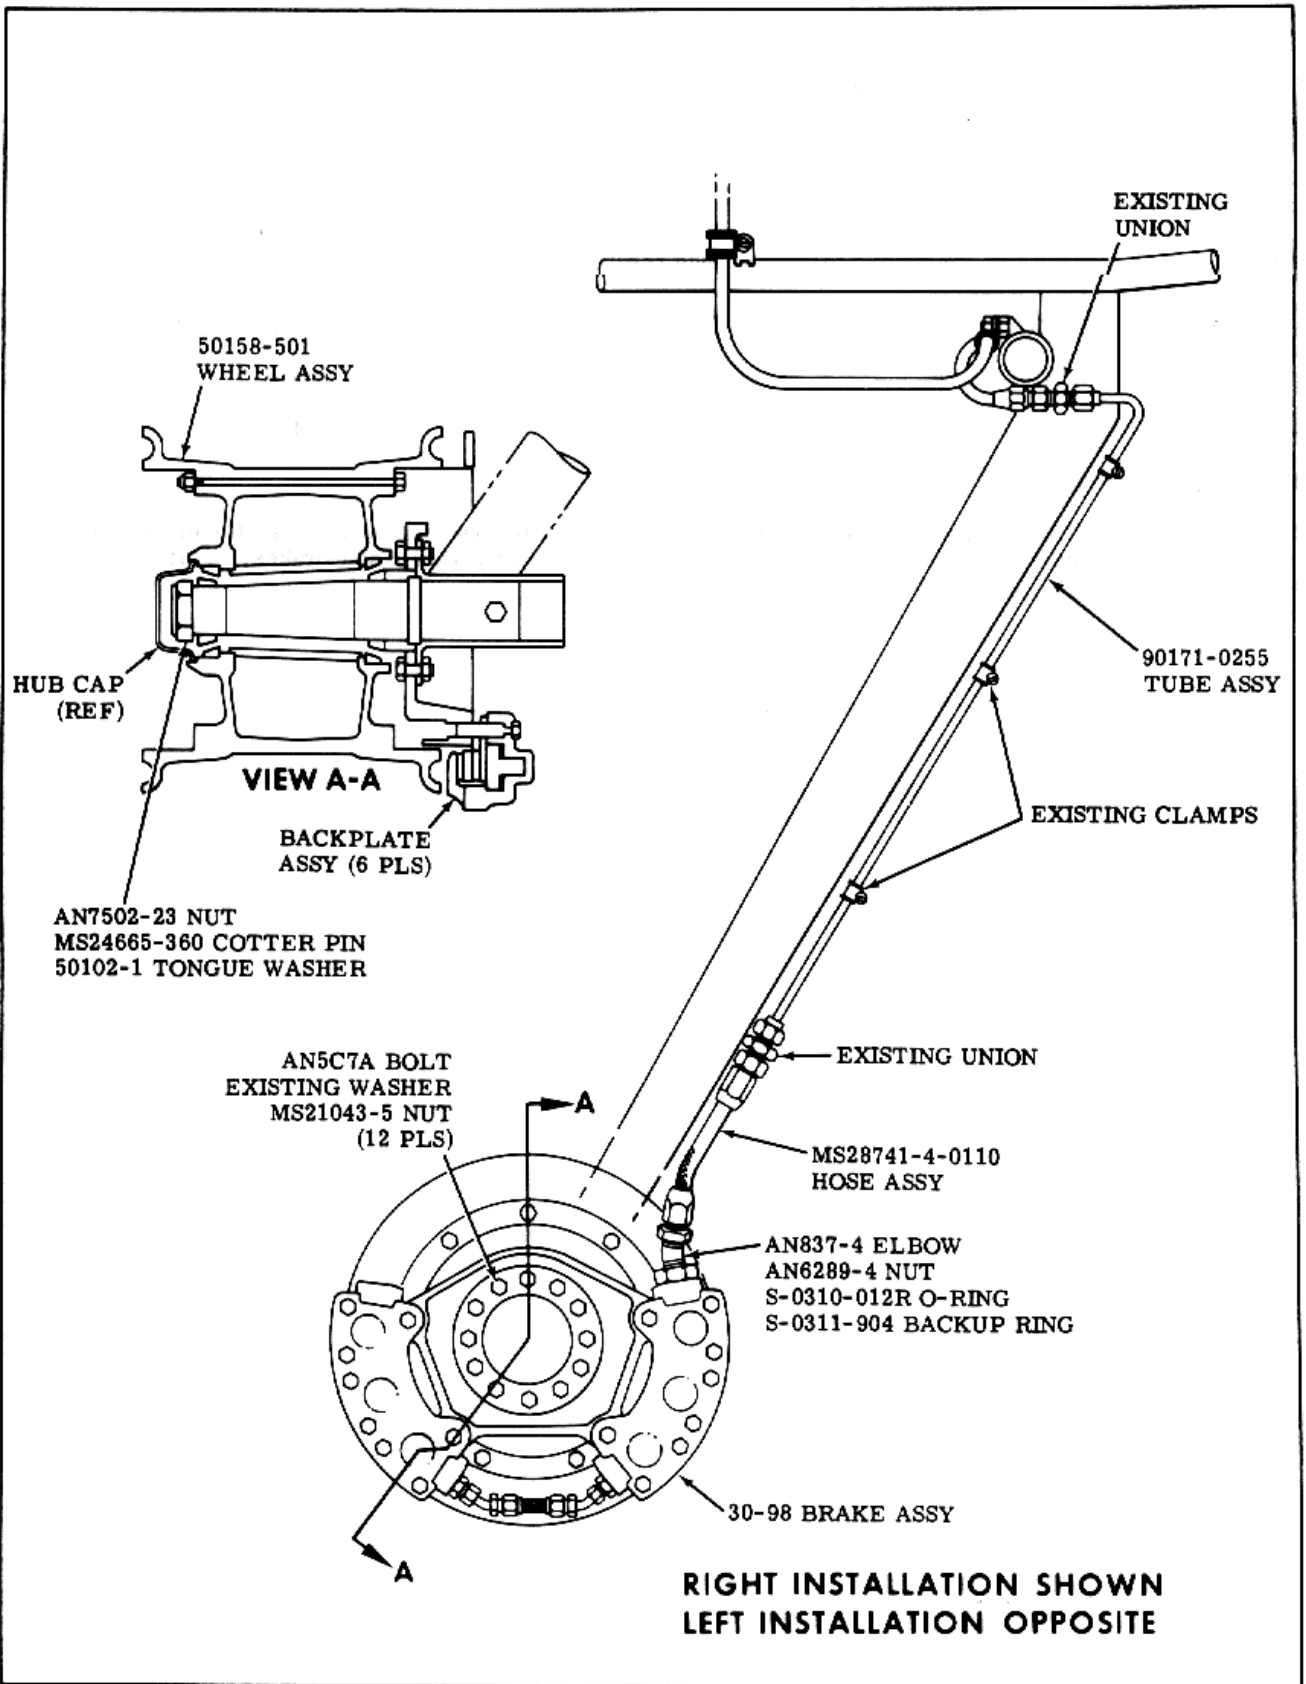

Figure 3.
12. Remove backplate assembly (6 places) from 30-98 brake assemblies and install 30-98 brake assemblies on left and right landing gear tripod assemblies (see Figure 3.).
- c. While rotating wheel, back nut off to zero (0) inch-pounds.
15. Install AN837-4 elbow, AN6289-4 nut, S-0310-12R O-ring and S-0311-904 backup ring in aft port of left and right brake assemblies (see Figure 3.).
16. Install 90171-0255 tube assembly, MS28741-4-0110 hose assembly and existing unions (see Figure 3.).